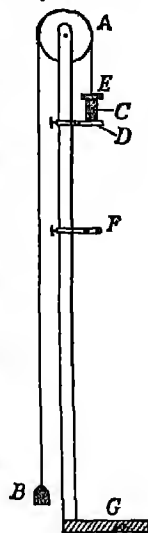

FIG. 131.
**Expt. 221.** Atwood's machine (Fig. 131) consists of a pulley, *A*, fixed at a height above the ground. The wheel must turn as freely as possible so some arrangement must be made to reduce friction at the axle. Two equal weights, *B* and *C*, are attached to a string which passes in the groove over the pulley. Weight *C* rests on a hinged platform, *D*, which can be removed at will allowing the weight *C* to fall. *C* is surmounted by another weight, *E*, in the form of a rider. *F* is a movable ring through which the weight *C* is able to pass but which stops the rider *E* which is wider than *C*. *G* is a platform on to which *C* can fall. The support of *A* is graduated in centimetres (or inches) so that the vertical distance from *C* to *F* can be accurately known.